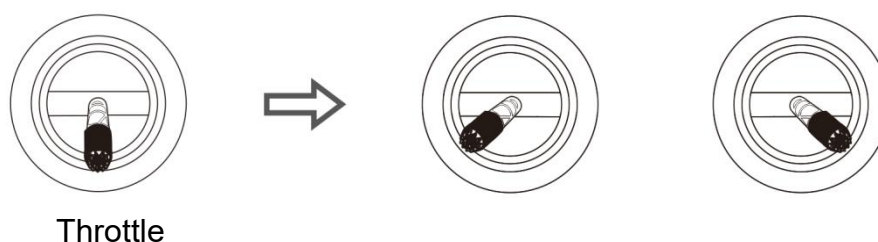

Figure 2-3-4 Land and Lock
Step 2: After the drone lands, place the throttle stick to the down position, and then perform the locking action as shown in Figure 2-3-4.